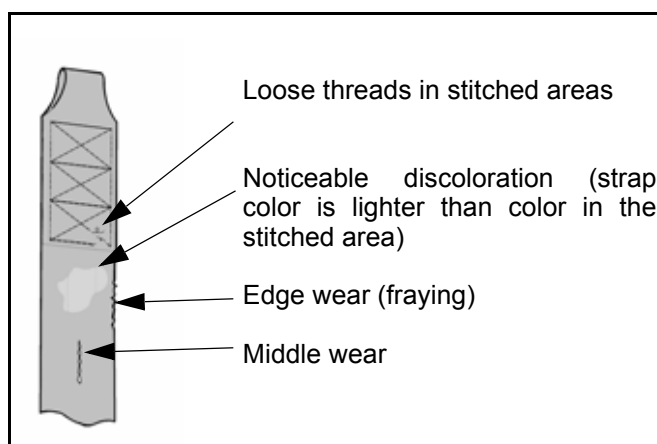

Fig. 55
- 2) Look for any signs of wear or discoloration (see Fig. 55).